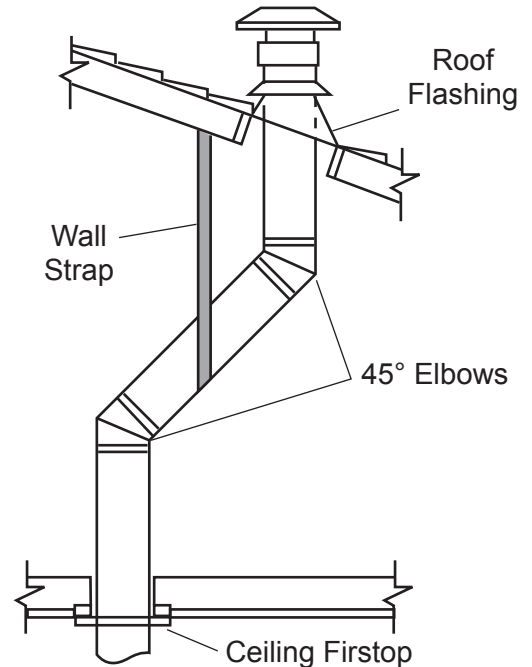

Figure 18 - Offset with Wall Strap and 45° Elbows
1. Determine the route your vertical venting will take. If ceiling joist, roof rafters or other framing will obstruct the venting system, consider an offset. See Figure 18 to avoid cutting load bearing members.
NOTE: If an offset is needed to avoid obstructions, you must support the vent pipe every three (3) feet. Use wall straps for this purpose. See Figure 18, page 17. Whenever possible, use 45° elbows instead of 90° elbows. The 45° elbow offers less restriction to the flow of the flue gases and intake air.
5. Place the flashing over the pipe section(s) extending through the roof. Secure the base of the flashing to the roof and framing with roofing nails. Be sure roofing material overlaps the top edge of the flashing as shown in Figure 18, page 17. There must be a 1" clearance from the vent pipe to combustible materials.